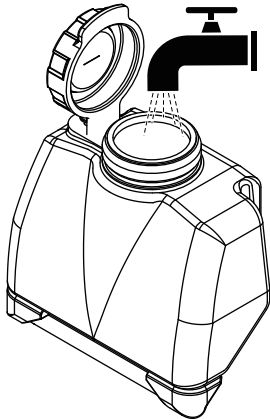

Fig. 10
1. Check the water tank for leaks after filling the water. (Fig. 10)